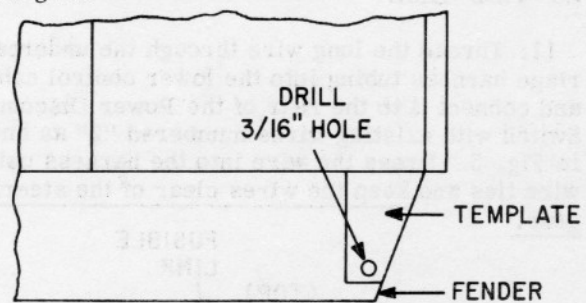

Figure 1. Left Fender (Top View)
4. Locate and drill a 3/16-inch hole in the top of the left fender using the template provided as shown in Fig. 1.